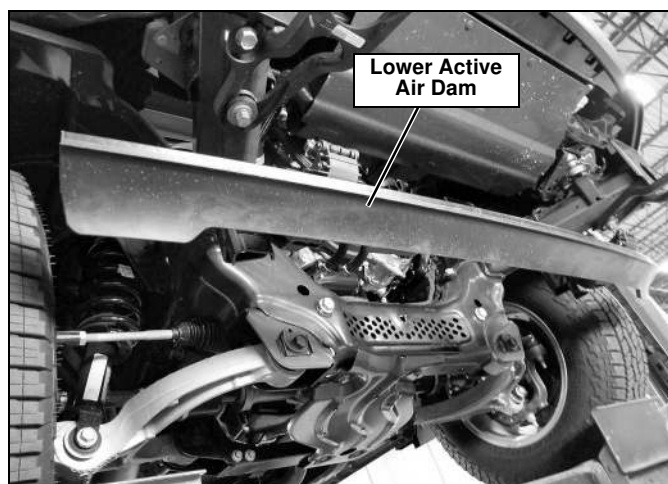
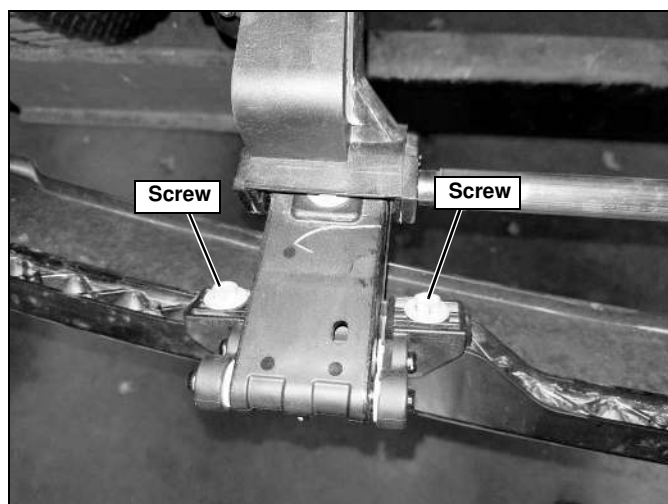

Figure 1
Figure 2
2. If the vehicle is not equipped with a lower Active Air Dam, skip to step 3. (See Figure 1.) Remove the four screws (two on each side) holding the air dam to the rotating mechanism. (See Figure 2.) Retain the hardware for installing if plow mount is removed.